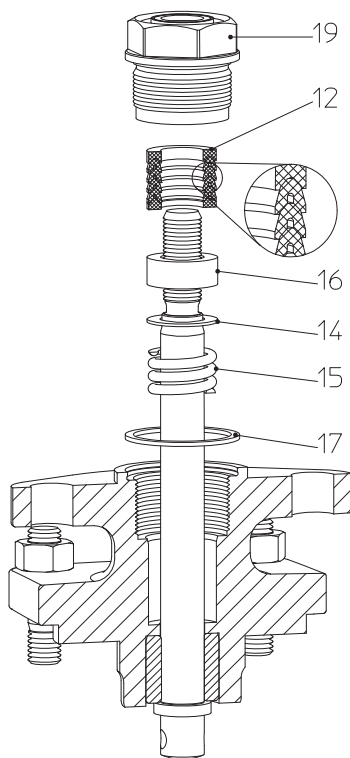
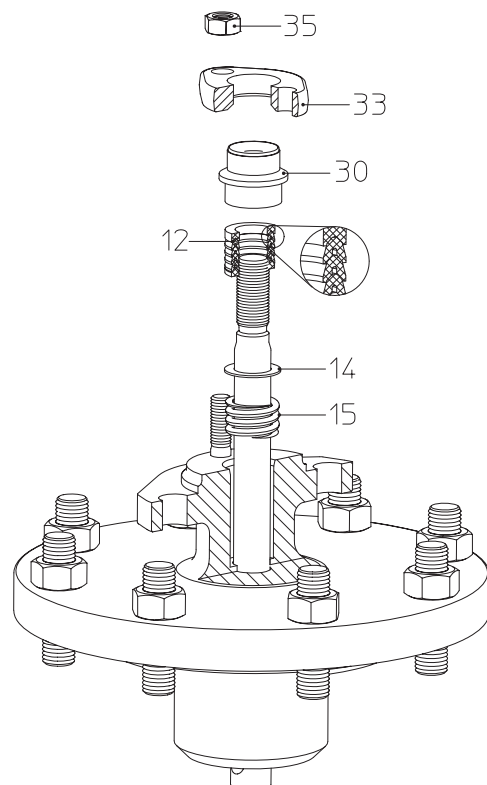

Fig. 8: PTFE V-ring unit DN15-100
Fig. 9: PTFE V-ring unit DN125-150
**Refer to item 10.0 and 11.0 before dismantling the valve.**
- When replacing PTFE V-ring unit (pos. 12), make sure that the parts are installed in the correct order and positions (refer to Fig. 8 - Fig. 9).
- DN15-100: Gasket (pos. 17) must be replaced.